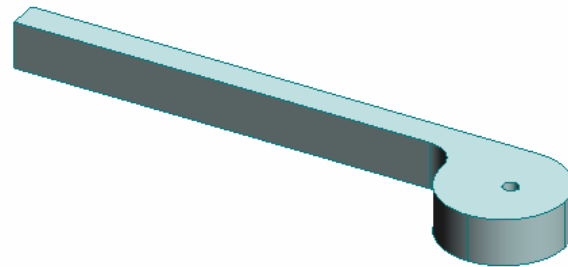

Figure 33. Completed extrusion.
69. Extrude the profile a distance of $\frac{3}{4}$ " above the workplane. Your design should look like figure 33